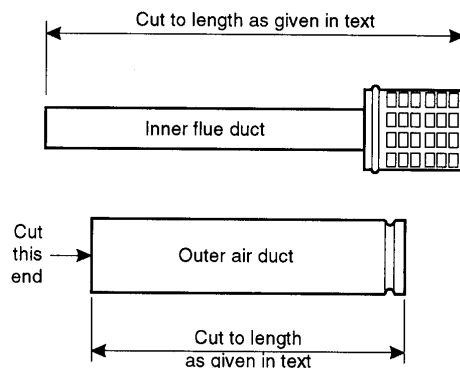

Fig. 10
#### 3.5 FIT THE STANDARD HORIZONTAL FLUE (See Figs. 10 and 11)
- 3 Mark the outer air duct to match the length given above, measure from the swaged 'outer' end of the tube. See Fig. 10.
- 4 Mark the inner flue duct to match the length given above, measure from the outermost edge of the terminal. See Fig. 10.
- 6 Fit the outer sealing collar over the swaged end of the outer duct, ensuring it locates in the swage. See Fig. 10.